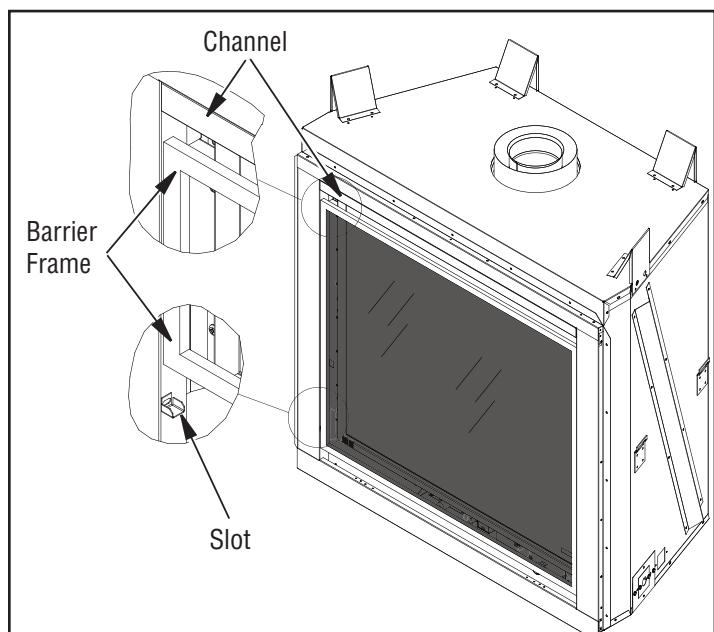

Figure 28 - Installing Barrier
1. Hold the barrier in front of the glass door and slide it up into the channel underneath the upper front face (see **Figure 28**).
2. Slide the barrier bottom down into the slots below at the glass door level, securing it in place (see **Figure 28**).